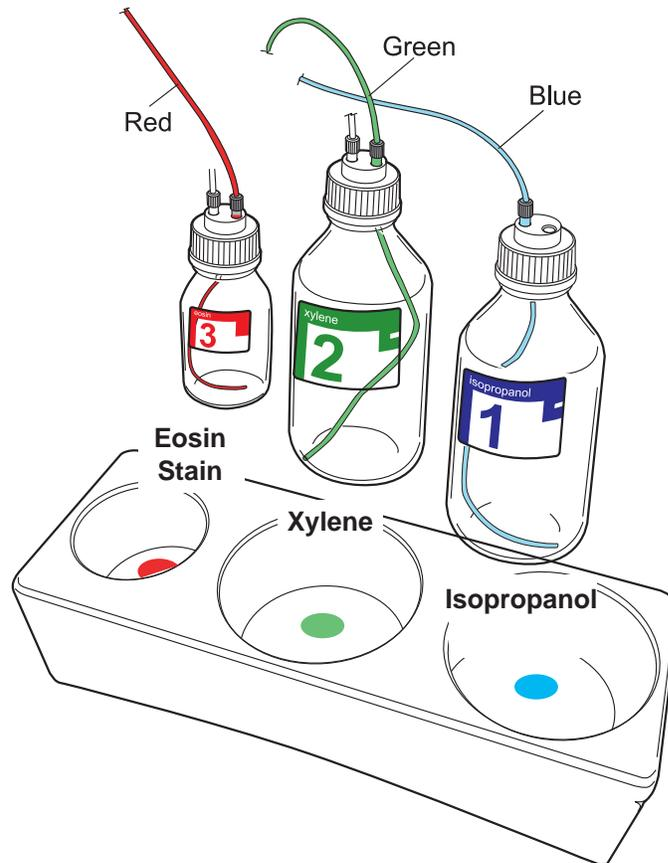

Figure 2-3 Reagent Bottles
The xylene (2) and eosin stain (3) bottles are pressurized. The colored tube is the reagent, the white tube is for the air. The isopropanol (1) bottle is not pressurized and only has the reagent supply tubing in the cap. See Figure 2-3.